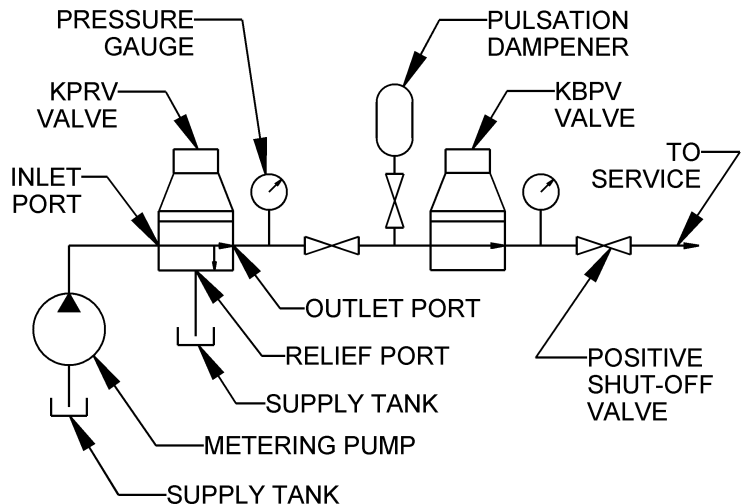

Figure 2
2. With the KBPV valve installed in the system as shown in Figure 2, make sure the system fluid is free to flow downstream of the valve. If there are any shut off valves downstream of the KBPV, make sure they are open.